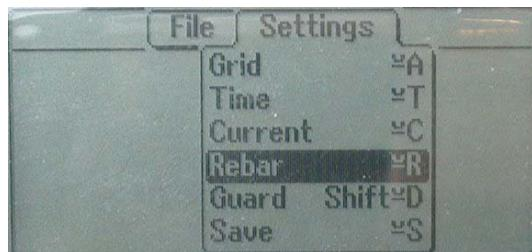

Fig .12. Settings display, rebar
- a. Press the *Menu* key to enter the settings menu. Fig. 12.